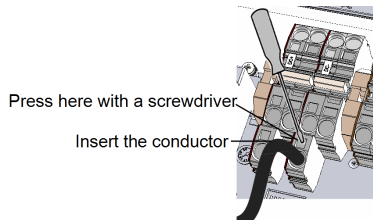

Figure 31: DC Spring-clamp terminals
- c. Insert the wire into the top opening (see *Figure 31*).